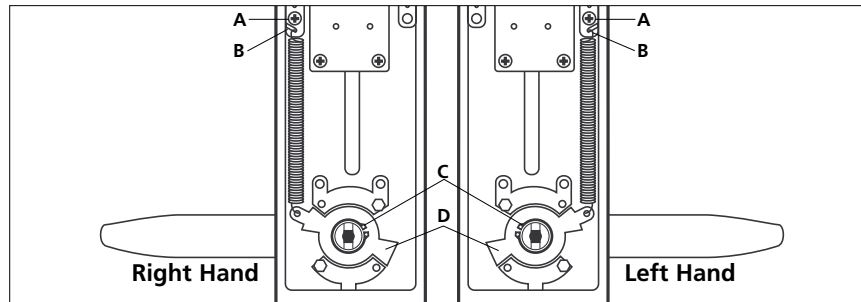

Figure 16
Outside Housing Assembly (see Figure 16)
- 1) Remove the spring screw (A).
- 2) Unhook the spring from the spring hook (B).
- 3) Remove the retaining ring (C).
- 4) Remove the stop plate (D).
- 10) If the self-aligning studs have previously been installed, change their position in keeping with the new handing of the lock (see Figure 16).